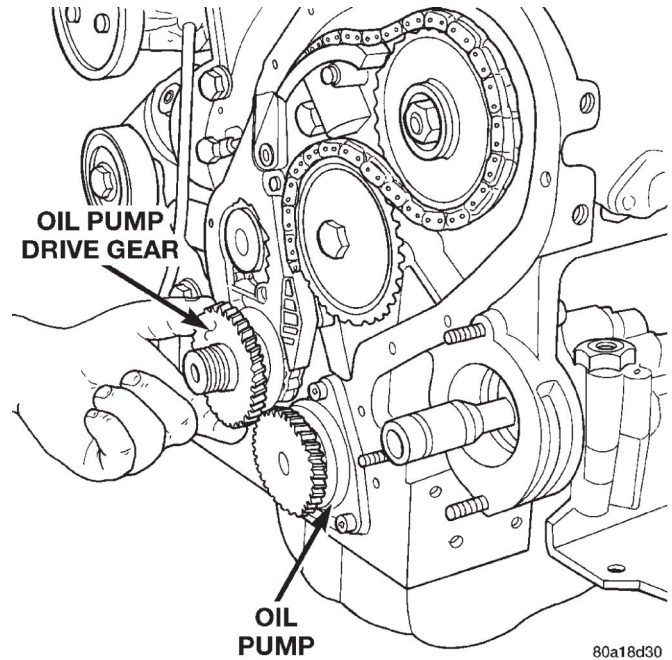

Fig. 41 Oil Pump Drive Gear
- (8) Remove timing chain cover. Refer to removal procedure outlined in this section.
- (9) Remove oil pump drive gear attached to crankshaft (Fig. 41).